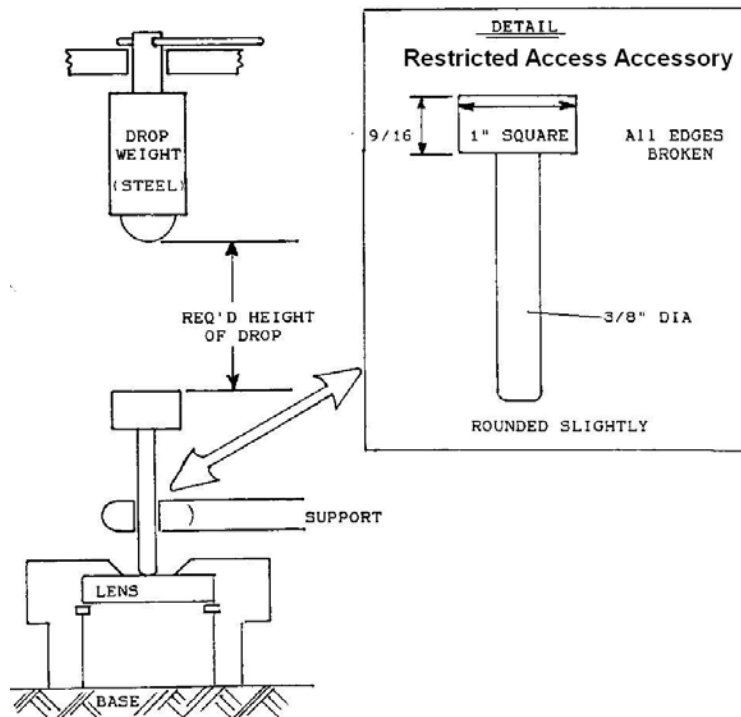

Figure 1
4.2 Restricted Access Accessory (see Figure 1)